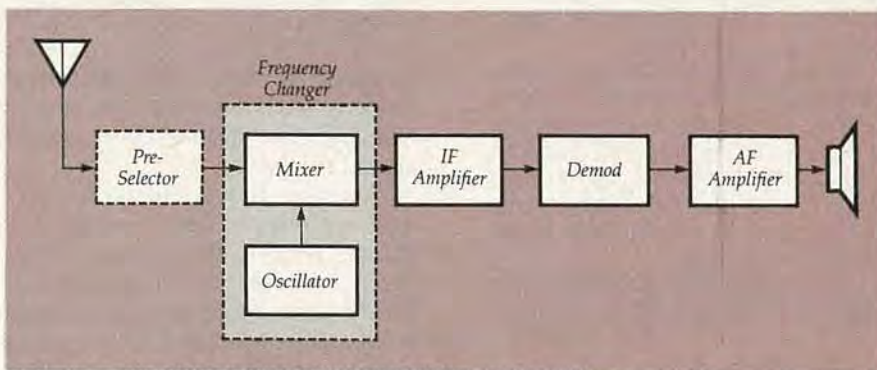

FIG. 11—BLOCK DIAGRAM of a super heterodyne receiver.
A block diagram of a basic superheterodyne receiver is shown in Fig. 11. The preselector consists of one or more tuned RF stages, but in less expensive receivers it is often omitted. As in the heterodyne receiver, the incoming signal is fed to a mixer, where it beats with a signal supplied by a local oscillator. However, unlike the heterodyne receiver, the local oscillator is designed so that the difference frequency is on the order of several hundred (or more) kHz. Known as the *Intermediate Frequency (IF)*, the difference signal is then amplified, demodulated to recover the audio signal, and then the audio is amplified again. The great advantage of the superheterodyne design was, and still is, the large amount of selectivity that can be supplied by the IF stages, which are fixed-tuned to a selected frequency.